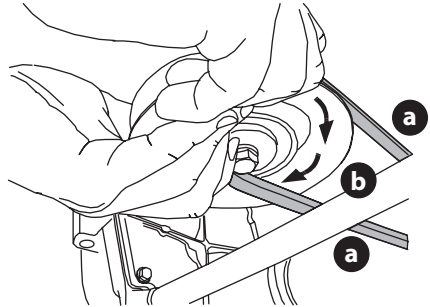

Figure 41
- d. While still holding the PTO belt (a) downward, continue turning the PTO pulley (b) until the PTO belt (a) is rolled off the PTO pulley (b) (Figure 41).
10. While holding the PTO belt and PTO pulley together, rotate the PTO pulley to the left (Figure 41 on page 30). Continue holding and rotating the PTO pulley and PTO belt until the PTO belt is fully rolled into the PTO pulley.